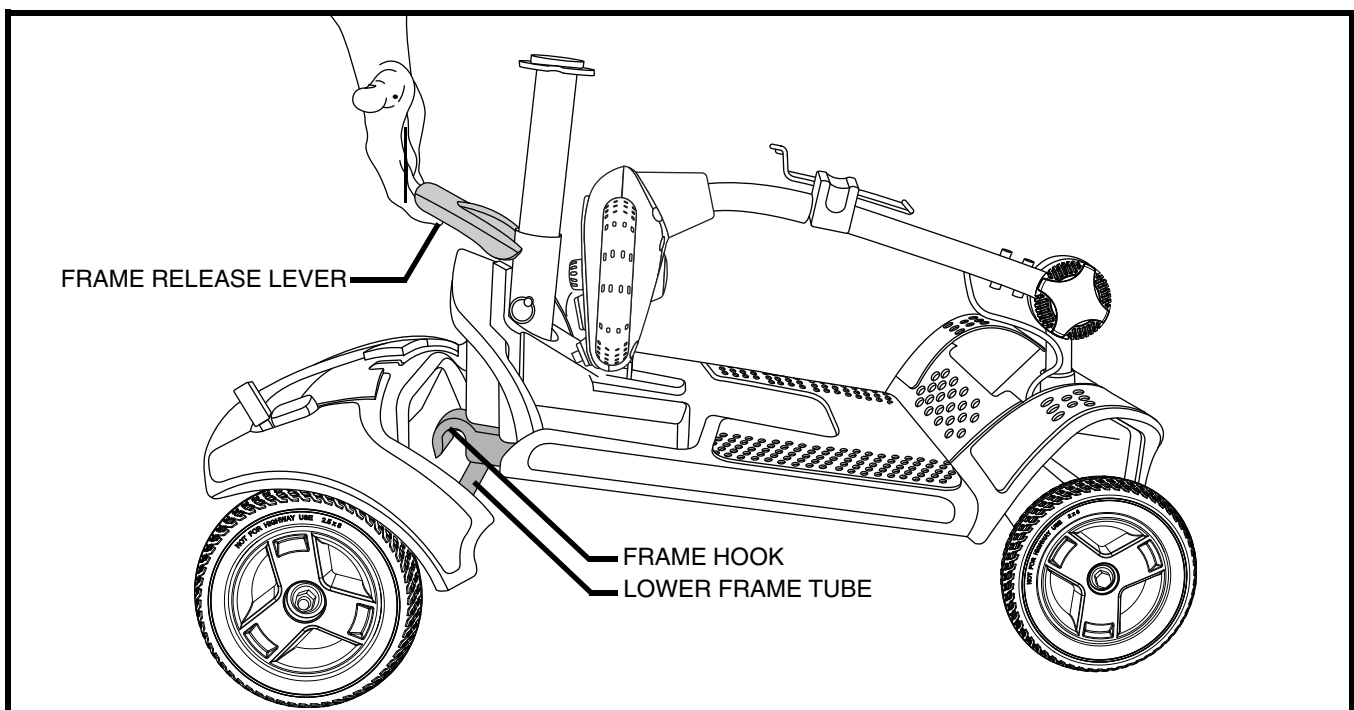

Figure 23. Frame Release Lever
3. Slowly separate the two sections of the Travel Scooter. See **figure 23**.
**NOTE:** Before attempting assembly, tilt the rear half of the Travel Scooter slightly back on the anti-tip wheels as show in figure 23.
1. Use the frame release lever to lift the front section as you align the frame hooks of the front section with the lower frame tube of the rear section. See figure 23.